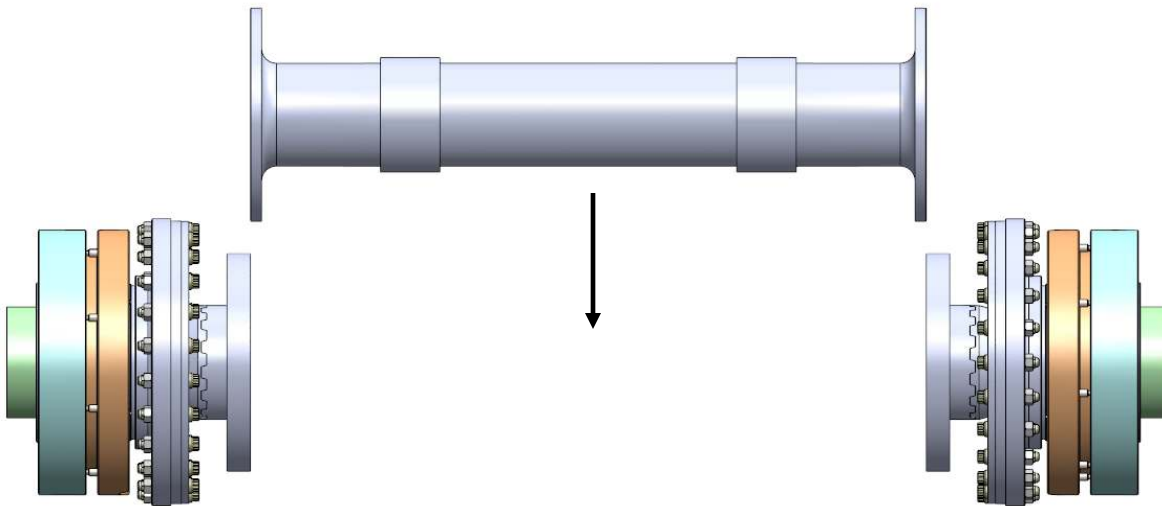

Figure 10 – Slide Center Spacer Tube Between Flex Assemblies
4.2.1 Slide the center tube between the flex assemblies as shown in Figure 10.